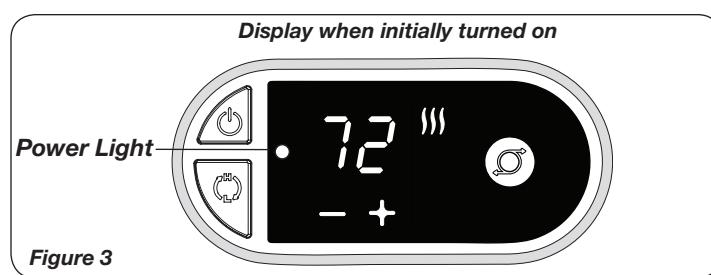

Figure 3
4. Turn the Heater ON by pressing the **Power Button** (O).
6. Upon turning the Heater on, the unit will be in HIGH heat (III) (1500 Watts) and will display the current room temperature. (Figure 3)
7. Press the (C) button for LOW heat (II).
8. To turn the Heater OFF, press the **Power Button** (O) and unplug the Heater from the electrical outlet.